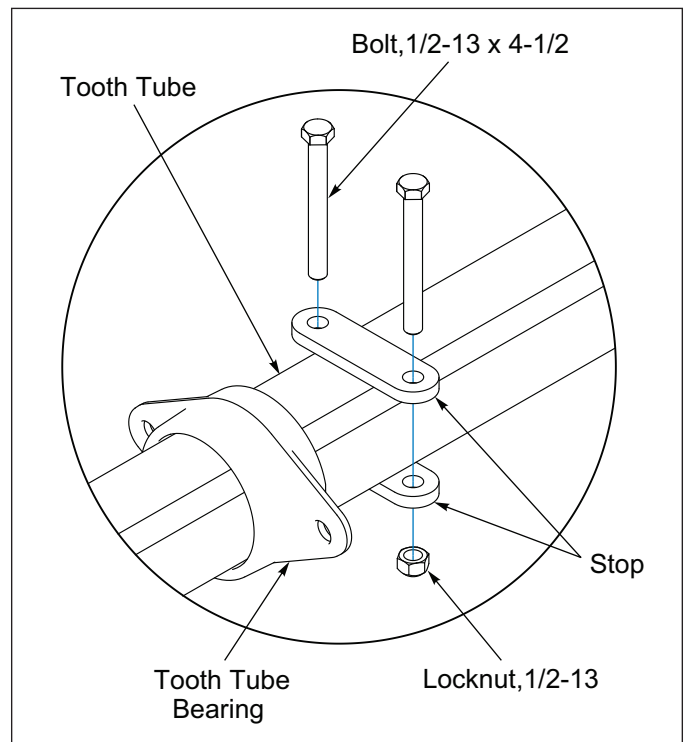

Figure 2-51: Wing Tooth Control Tube Stop
3. Place stops on Tooth Control Tube against Tooth Tube Bearing to prevent Tooth Control Tube from sliding right or left. Secure with 1/2-13 x 4-1/2 Bolts and Locknuts. See **Figures 2-51, 2-54 and 2-55**.